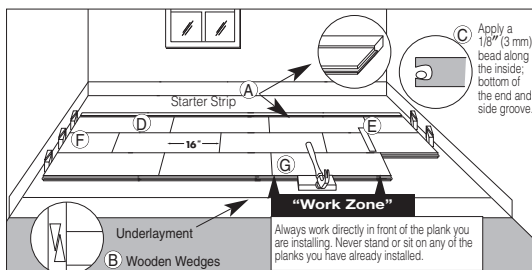

Figure 14
- Select the first board. All installations should begin with the groove side against the wall using the longest boards available. Apply a continuous 1/8" (3 mm) glue bead to the inside bottom of the groove on the end of the board. Do not apply glue to the groove side at this time (Item C, Figure 14). Products with the end tongue on the left should be installed right to left, opposite tongues should be left to right (Item D, Figure 14). If a sacrificial board was used DO NOT glue the first row to it.
- Complete the first row. Cut the last board allowing for 1/2" (13 mm) clearance between the wall and the floor. (Use the remaining end of the cut board as a starter board for any row following row three.) Install a wedge on the end of the board between the hardwood flooring and the wall allowing 1/2" (13 mm) expansion space. Avoid installation of any boards shorter than 16" (40.6 cm) in the first four rows (Item F, Figure 14).
- Use a pull bar to pull the last board into place from the opposite end. Install wedges into the gap and tighten (Item B, Figure 14).
- Cut or use a shorter board for the first board of the second row. Start the second row by applying a 1/8" (3 mm) bead along the inside bottom of the end and side groove of the new board. Install the first board of row two. Apply a bead of glue to the inside bottom of the end and side groove of the next board and install. When installing boards together, use a tapping block against the tongue, not the groove (Item G, Figure 14). Tap the boards into place by tapping with a hammer on the tapping block. DO NOT tap on the edge directly with the hammer. Complete the second through fourth rows using this technique. Insert wedges on the ends, as necessary, to restrain the movement of the floor.